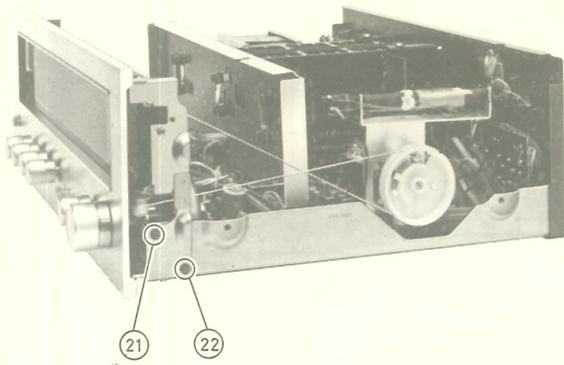

Fig. 6
6. Remove four (4) front panel-mounting screws, nos. ㉑ and ㉒ as shown in fig. 6. (Left and Right side)